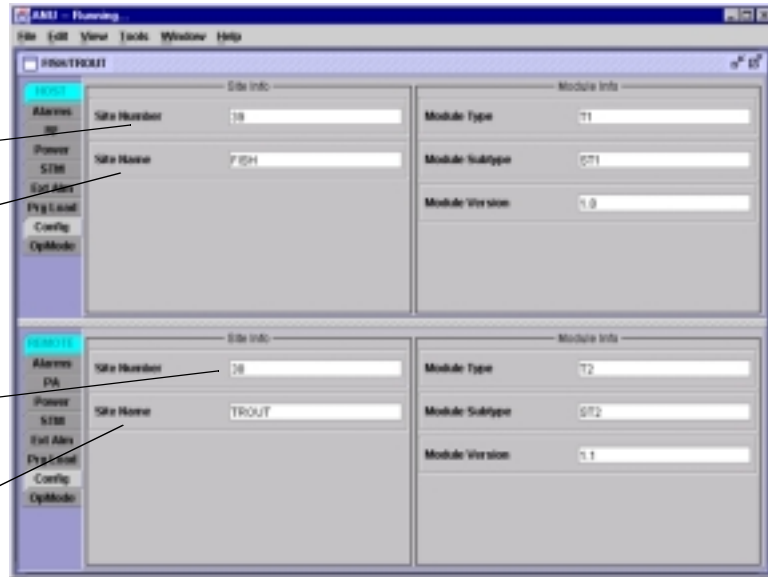

Figure 4-4. HOST and REMOTE Config Displays
1. Click on the **HOST Config** tab and on the **REMOTE Config** tab. The **HOST Config** display and the **REMOTE Config** display will open within the EMS main window as shown in Figure 4-4.
2. Right-click on the **HOST Site Number** (see Figure 4-4). The **Site Number** pop-up screen will open as shown in Figure 4-4. Enter any odd number between 33 and 61 and then click on **OK** to close the screen and make the changes take effect.
3. Right-click on the HOST **Site Name** field (see Figure 4-4). The **Site Name** pop-up screen will open. Enter a unique name for the HOST. The name may be up to 32 characters long and must not contain any spaces. The name may include numbers, punctuation, and upper or lower case letters and must always begin with a letter. Click on OK to close the screen and make the changes take effect.
4. Check the REMOTE **Site Number** field (see Figure 4-4). The REMOTE Site Number does not have to be entered. When the HOST Site Number is entered, the system will subtract 1 from the HOST Site Number and automatically enter the result for the REMOTE Site Number.
5. Right-click on the REMOTE **Site Name** field (see Figure 4-4). The **Site Name** pop-up screen will open. Enter a unique name for the REMOTE. The name may be up to 32 characters long and must not contain any spaces. The name may include numbers, punctuation, and upper or lower case letters and must always begin with a letter. Click on OK to close the screen and make the changes take effect.